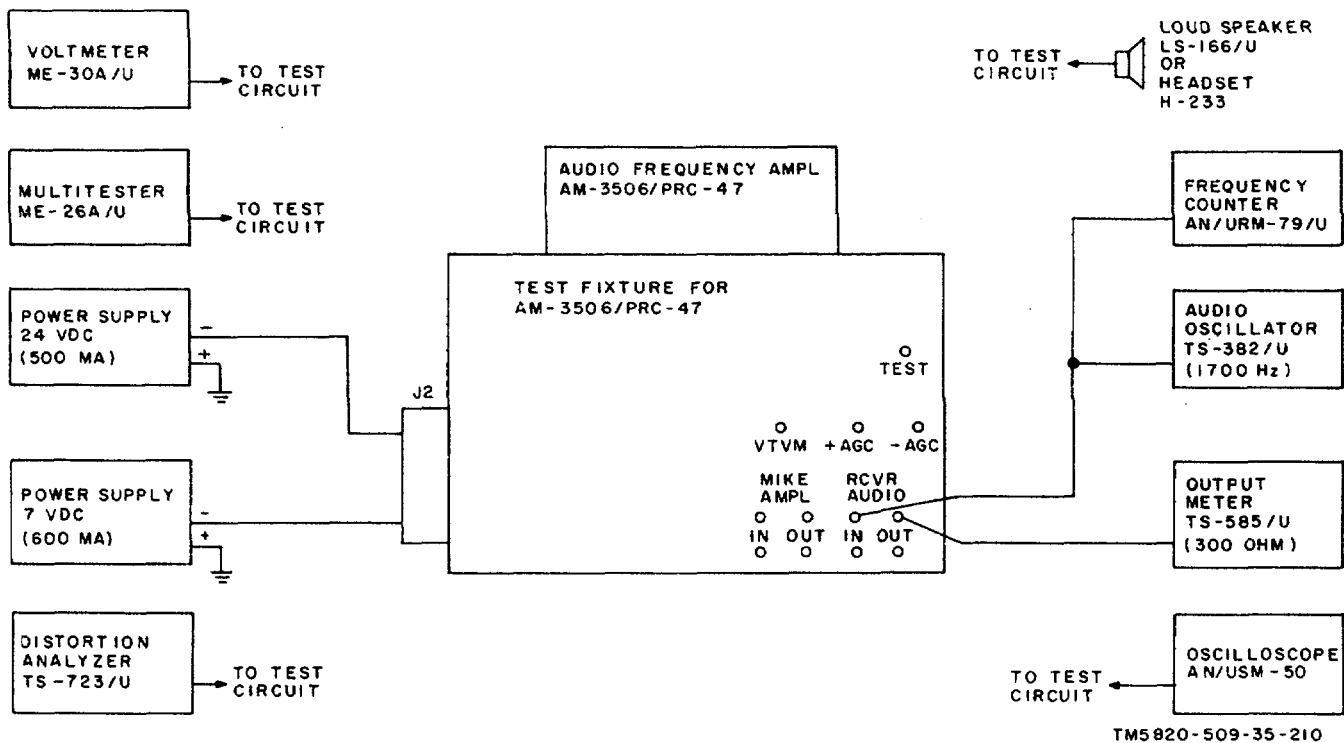

Figure 6-11. Audio Frequency Amplifier AM-3506/PRC-47 (A8A 7) Performance Tests, Initial Test Equipment Connections
(1) Connect the audio oscillator, frequency counter, output meter and the two power supplies to the test fixture as shown in figure 6-11. (The connections for the remaining test equipment are detailed in the appropriate procedural steps below.
(2) Remove the dust cover from the module, set all potentiometers to mid-range (full turns from either end), and carefully insert the module into connector J1 on the test fixture.
(3) Apply primary power to all test equipment and turn on the power control switch of each unit. Immediately adjust the output of the 24 volts power supply to 24.0 ± 0.5 volts dc and then place the POWER switch of the test fixture to ON.
(4) Place the +20 V - +24 V switch to the +20 V position and observe that the MODULE CURRENT meter reads approximately 25 ma. Place the switch to +24 V and note the MODULE CURRENT indication is approximately 55 ma.
(5) Adjust the output of the -7 volts power supply using the SIDETONE GATE TEST jack (J3) and the SIDETONE GATE ADJUST control on the test fixture. The reading at J3 must be set to -7.0 ± 0.2 volts dc. Then place the power control switch on the -7 volts power supply to off.
(6) Permit the test equipment and the module to stabilize for at least 5 minutes before beginning the following procedures.
(7) Set the IMPEDANCE switch on the output meter to 300 OHMS, and adjust the meter multiplier for 5000 milliwatts full scale.